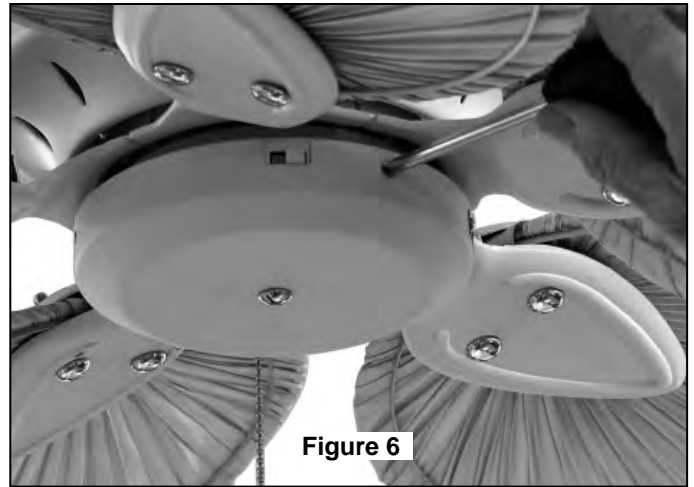

Figure 6
**10.** Assemble the Housing Switch Cup onto the assembled Adapter with three screws. (Figure 6)